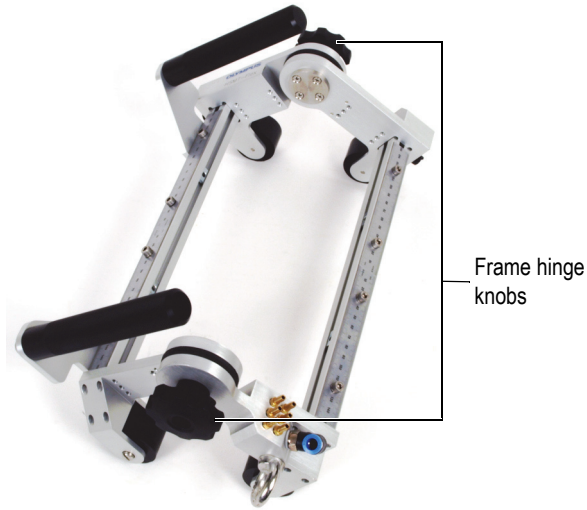

Figure 2-1 Frame angle adjustment
1. Loosen the knobs on the two frame hinges (Figure 2-1 on page 38).